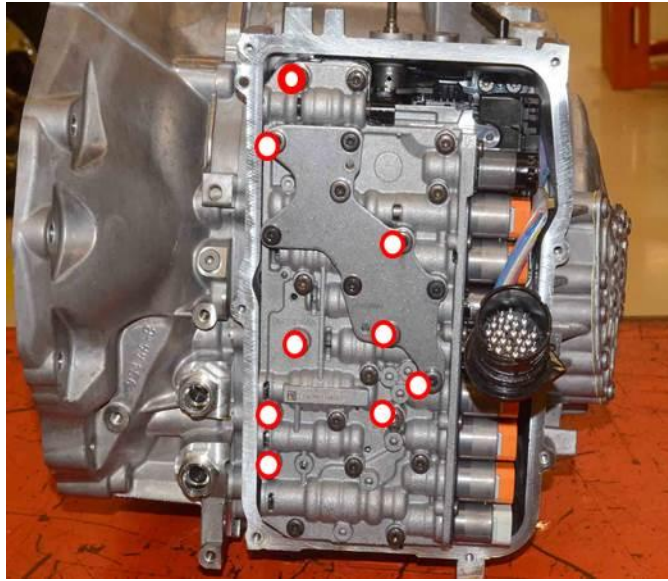

Fig. 4 Only Remove Bolts Highlighted
6. Remove the valve body retaining bolts securing the valve body assembly to the transmission case. Only 9 bolts will need to be removed in order to remove the valve body. See (Fig. 4).